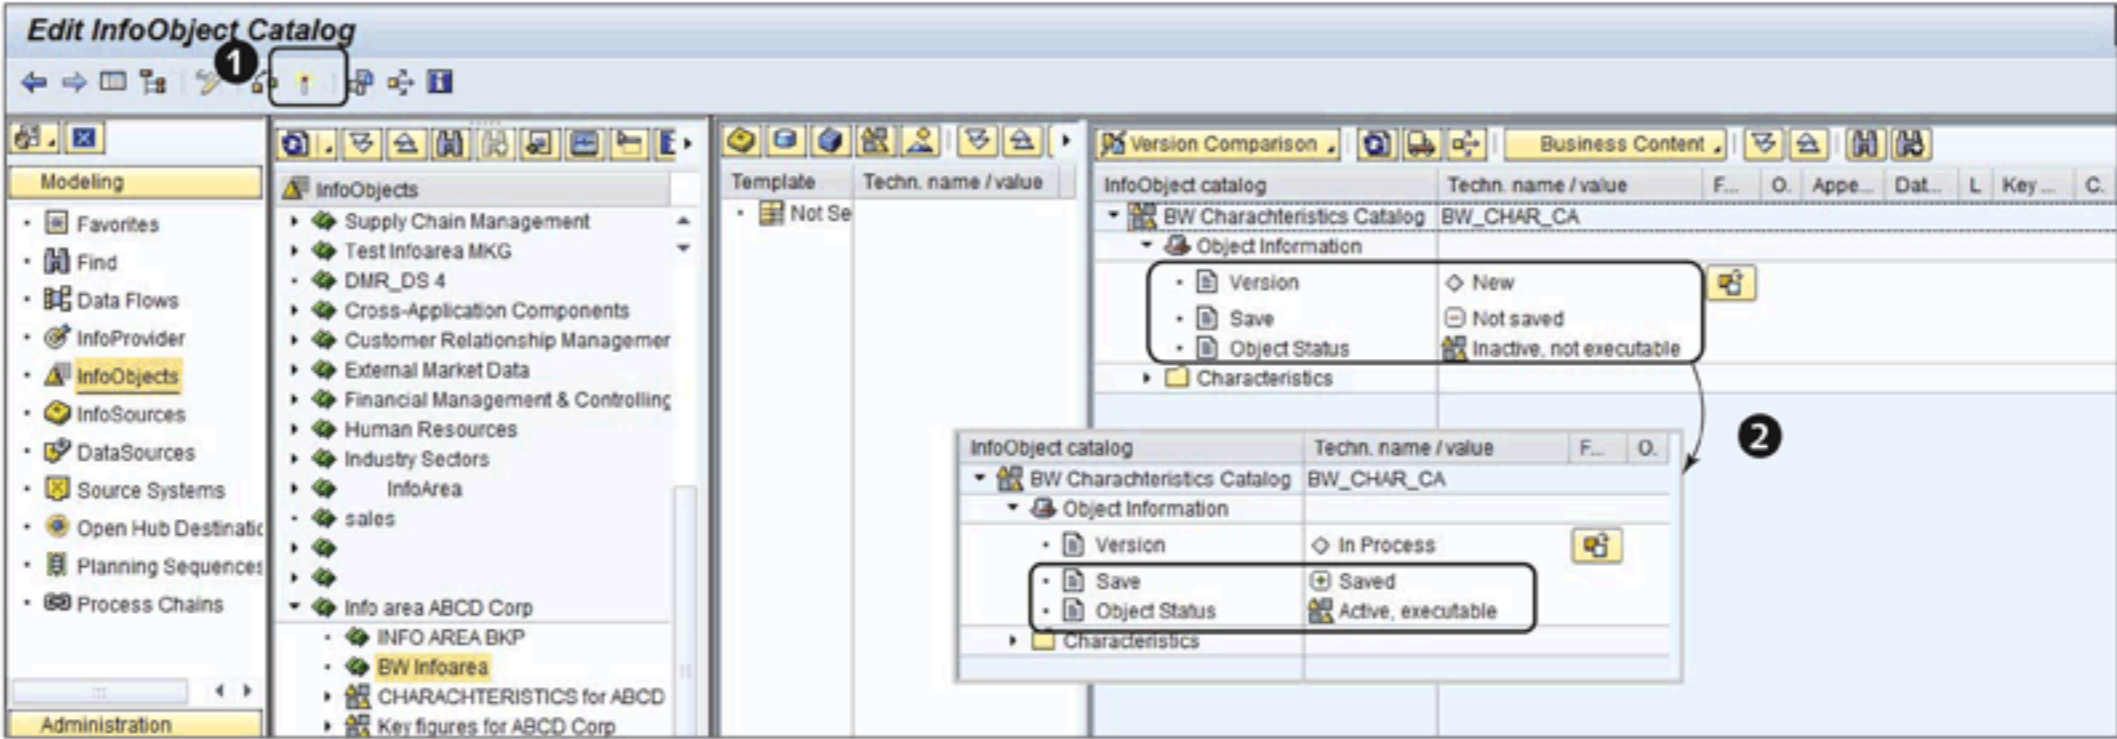

Figure 3.9 Activate InfoObject Catalog
7. Having defined the name for the InfoObject catalog, click on the CREATE icon (3), or press [F5] on the keyboard. The system creates the new InfoObject catalog, which is still inactive (Figure 3.9).
8. Activate the InfoObject catalog using the ACTIVATE icon (1 of Figure 3.9).
After you activate the InfoObject catalog, you'll see a message confirming activation at the bottom of the screen. You can also view your newly created InfoObject catalog BW_CHAR_CA under InfoArea BW_AREA. As you can see in ❷ of Figure 3.9, the InfoObject catalog is listed as active.